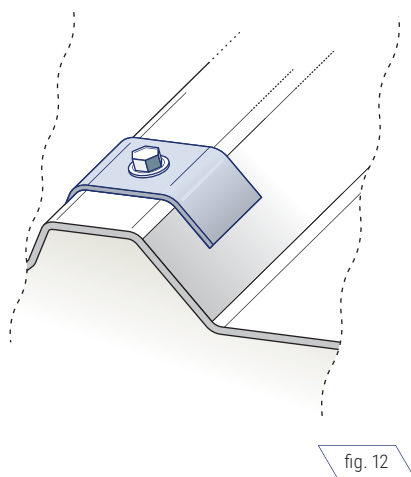

fig. 12
- In order to install the roof panels the calottes are recommended. They distribute pressure forces produced by screws evenly and assure water tightness of the connections; (fig. 12)